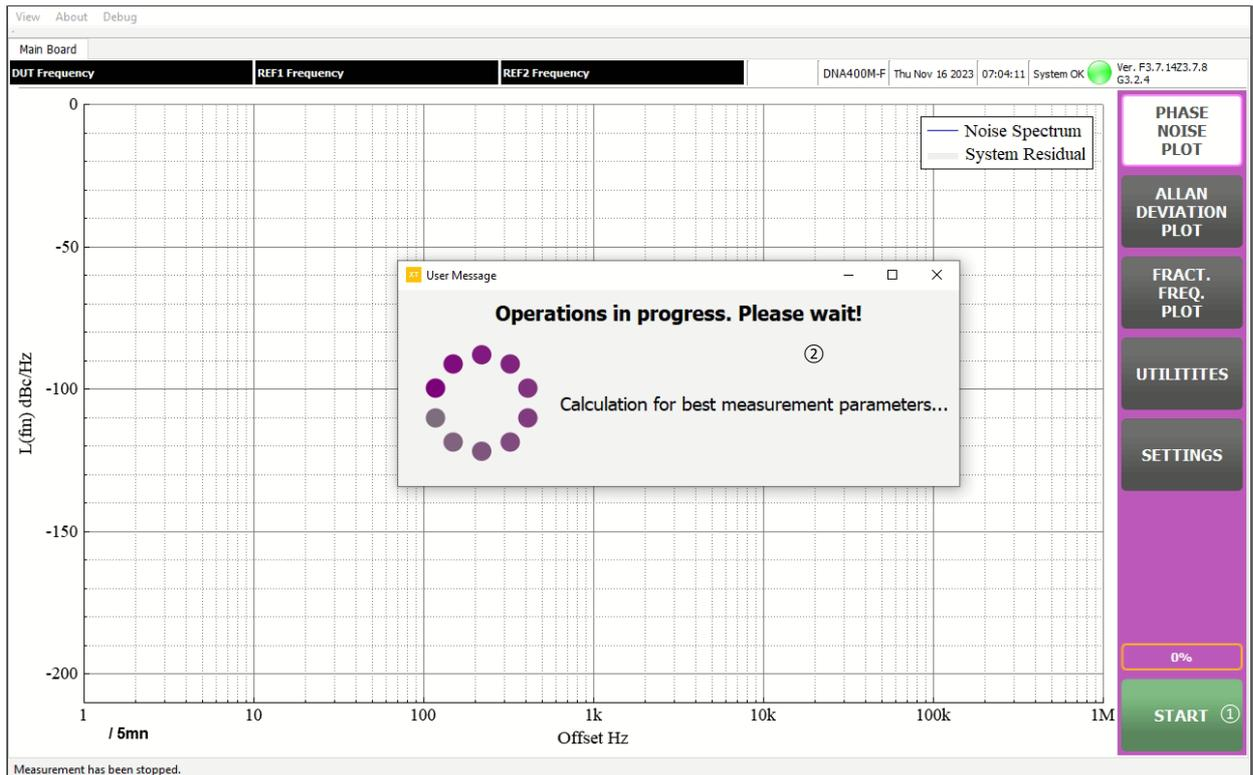
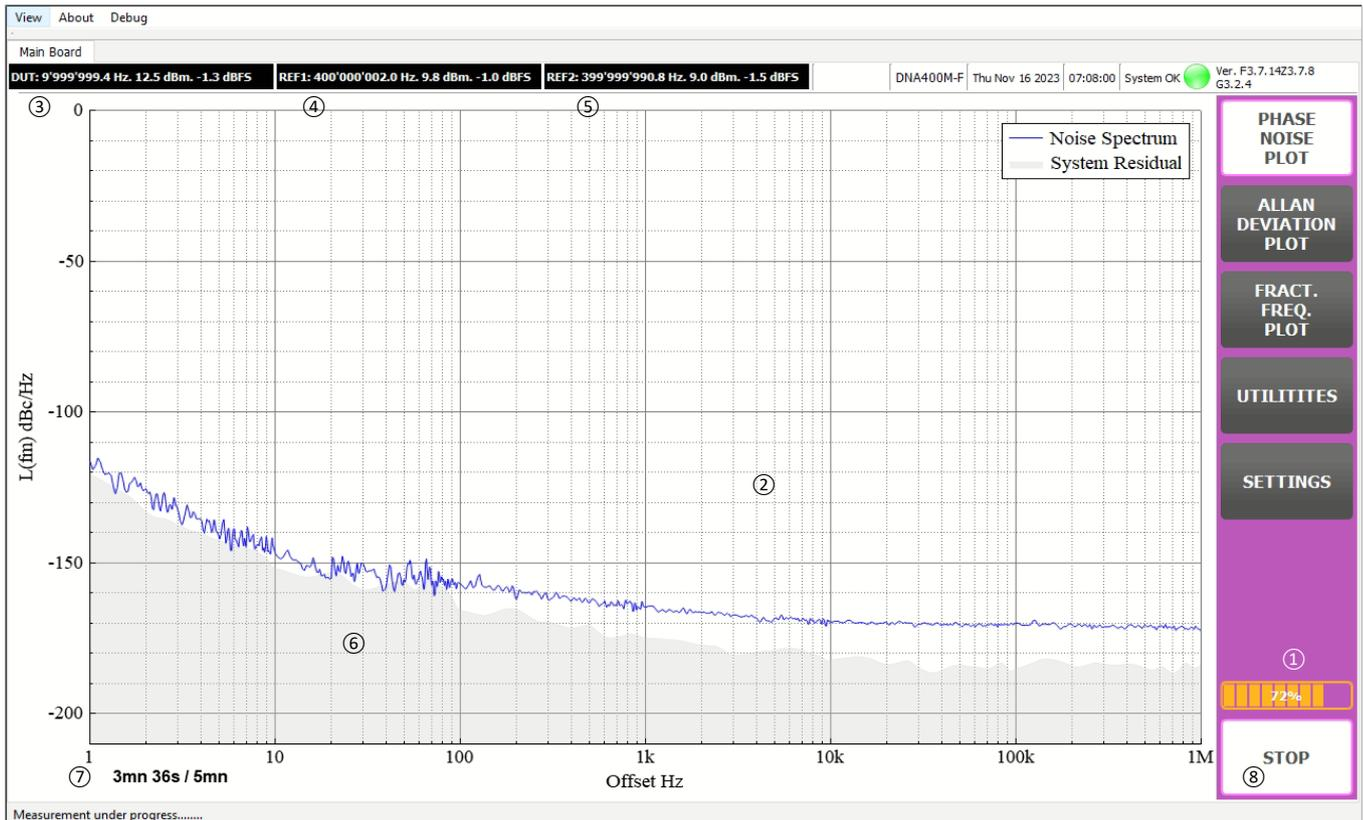

Figure 46 - Start
Figure 47 - Running measurement
DNA is now set up and ready for measurement and can be launched by clicking on the START ① button. Before the measurement is really launched, the DNA is computing for best internal measurement parameters. During this time, a message popup is shown to inform the users. While the measurement is under progress, users should see the text “Measurement under progress ...” ② displayed on Figure 46 - Start.
When Best Calculation is finished (Figure 46 - Start) measurement selected is being plot (Figure 47 - Running measurement).